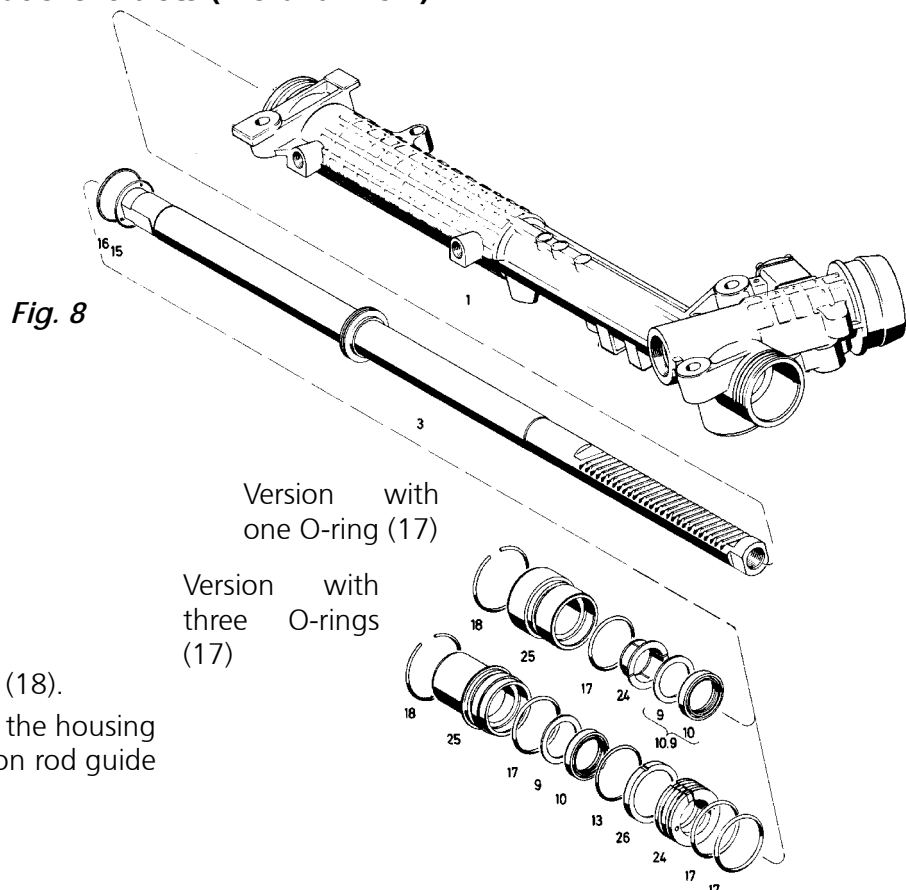

Fig. 8
Pull the rack (3) out of the housing (1) along with the piston rod guide (25) (Fig. 8).
Remove the two additional O-rings (17) (see Fig. 8).